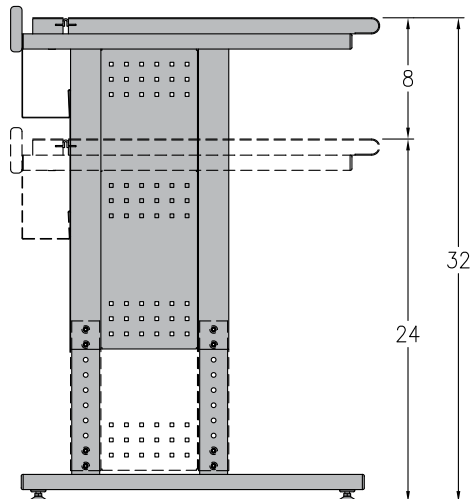

Figure 2C
*If you have a desk with the adjustable leg feature, the worksurface height can be adjusted from 24"H - 32"H in 1" increments. **Figure 2C.** Adjustment is easier if the desk is upside-down.*